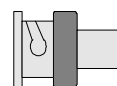

Fig. 2
- a short-circuit plug (Fig. 2)